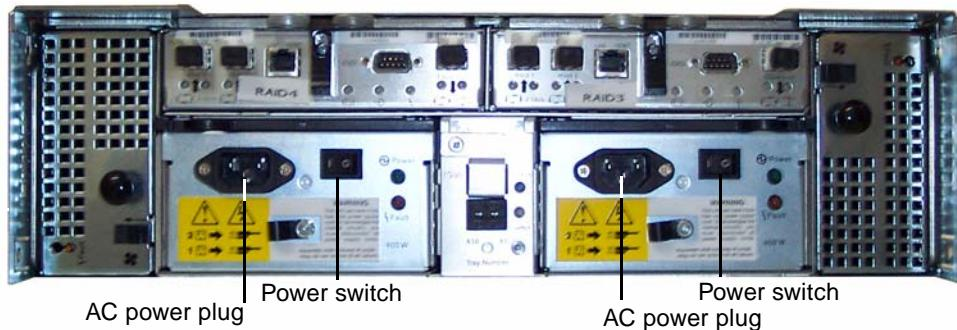

FIGURE 2-22 Controller Enclosure Back Panel
2. Make sure that the power switches are in the Off position, and then connect both AC power cables to the back of each controller enclosure (see FIGURE 2-22).